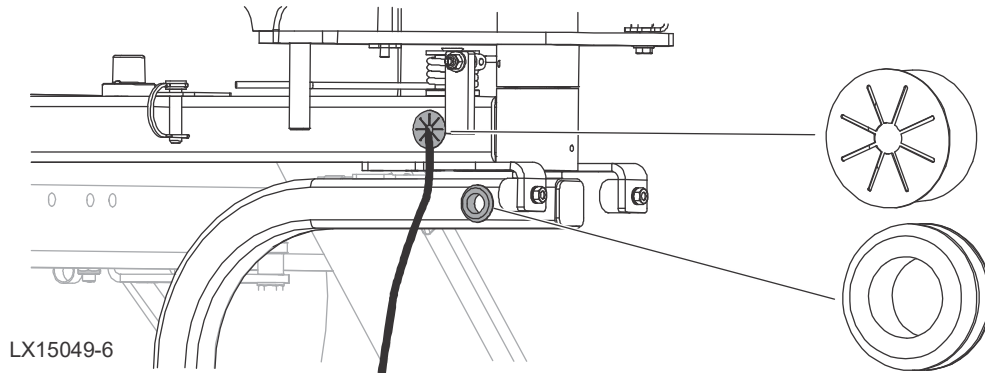

FIG. 1-5
2. Install the grommets from the hardware bag into the arms as shown in Fig.1-5